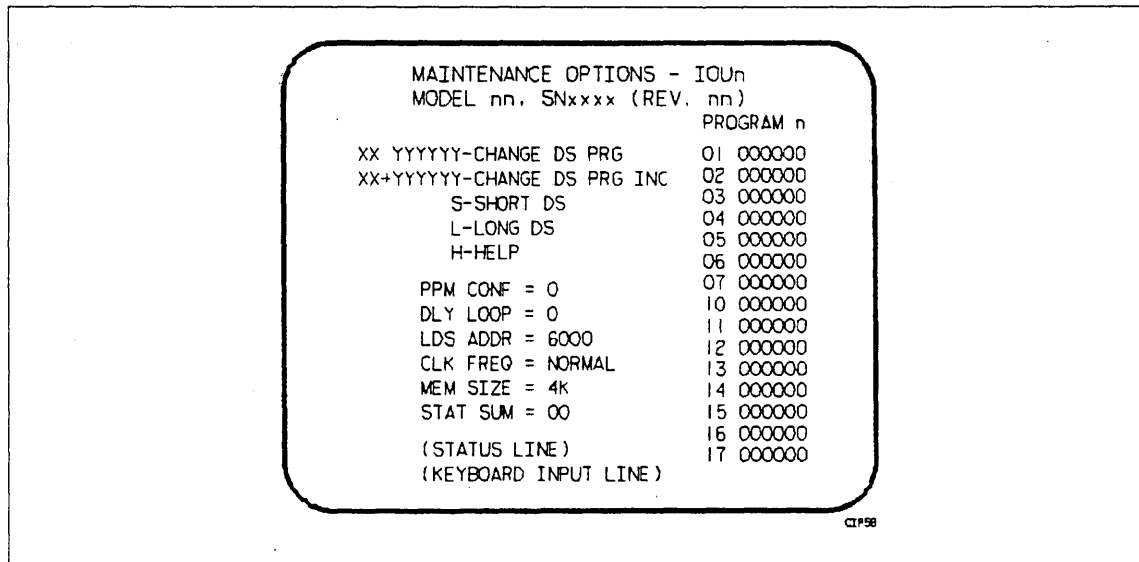

Figure 5-10. Maintenance Options - IOUn Display (CC598A Console)
- ___ 5. Enter either 0 to bring up the MAINTENANCE OPTIONS - IOU0 display or 1 (dual IOU systems only) to bring up the MAINTENANCE OPTIONS - IOU1 display. Refer to figure 5-10.